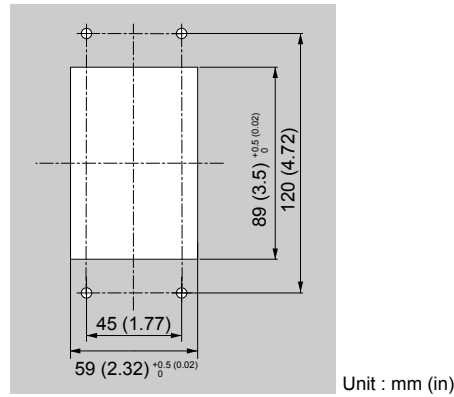

Figure 2.16 Panel Cut-Out Dimensions (Internal/Flush-Mount Installation)
1. Cut an opening in the enclosure panel for the HOA keypad as shown in Figure 2.16.